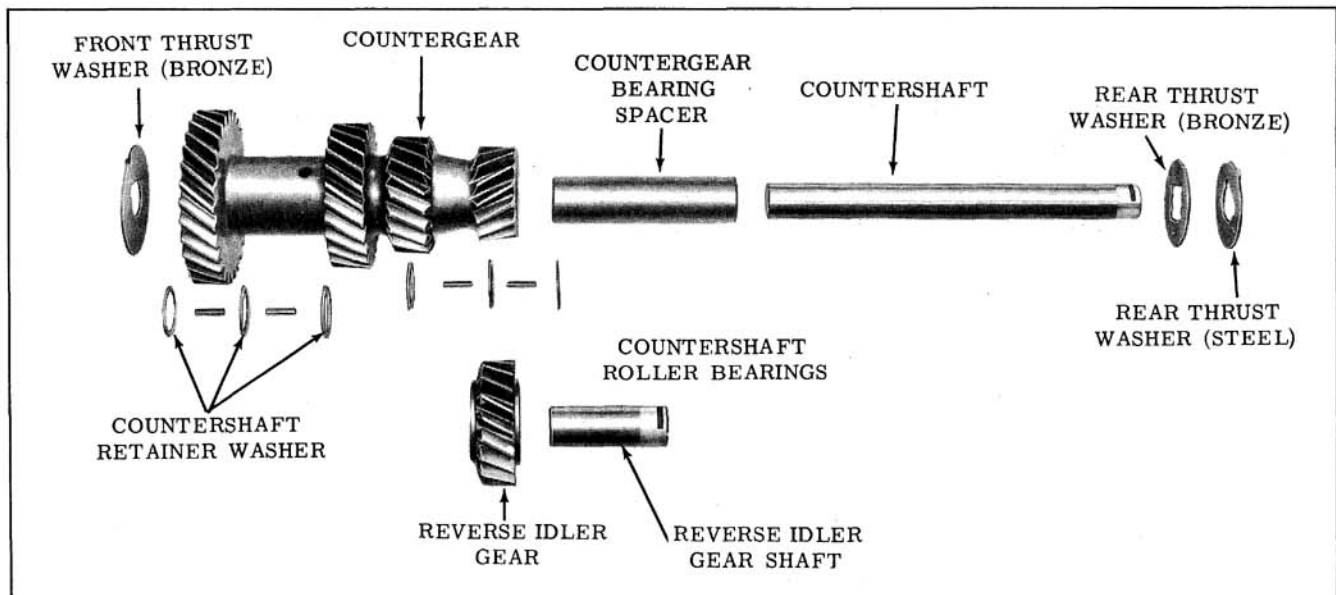

Fig. 7-39 Countergear and Reverse Idler Gear
13. Remove Tool J-21892 from countergear and remove the 80 roller bearings, six bearing retainer washers, and bearing spacer from inside countergear. (Fig. 7-39)